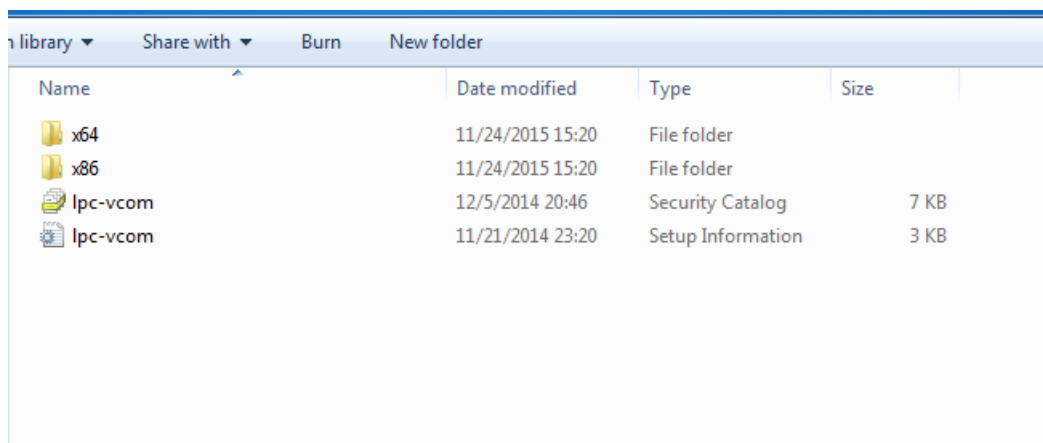

Fig. 5.
- Select "x86" driver for a 32-bit machine or x64 for a 64-bit machine. If not sure, select a root folder (folder in which x64 and x86 lay inside, as in Fig. 5).